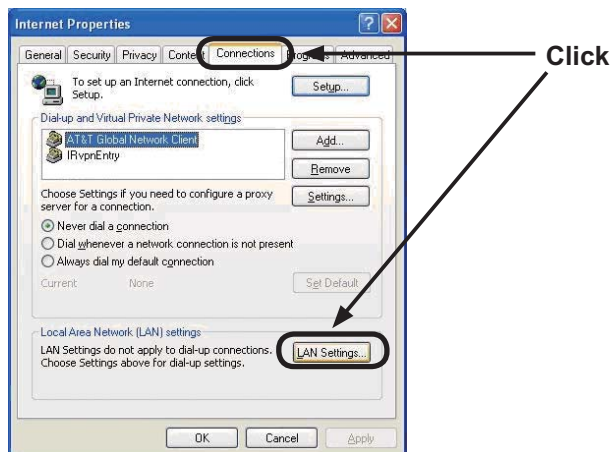

Fig. 2.3.3.b “Internet Properties” window
- 2) Click “Connections” tab and then click [LAN Settings] button to open “Local Area Network (LAN) settings”. (Fig. 2.3.3.c)